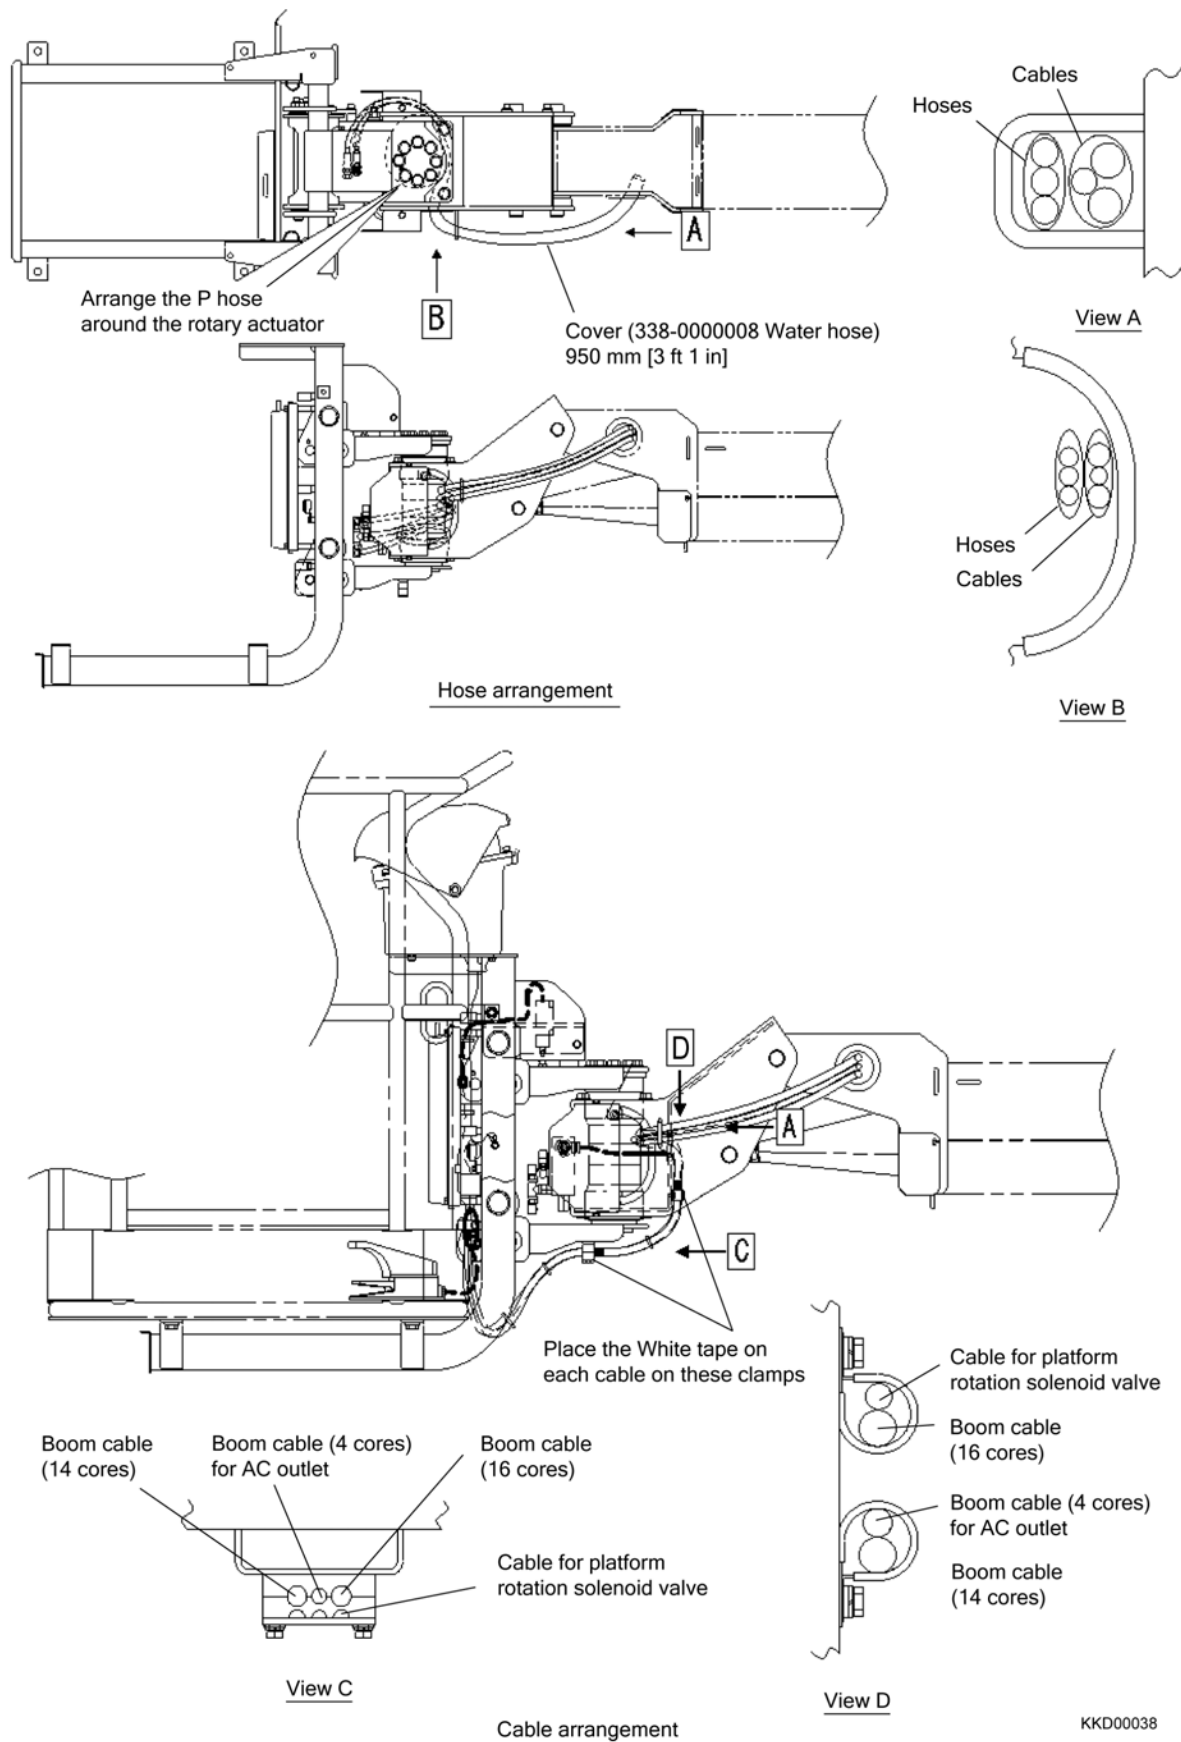

Fig. 2-71
22) Arrange the hoses and cables as shown in the Fig. 2-71.